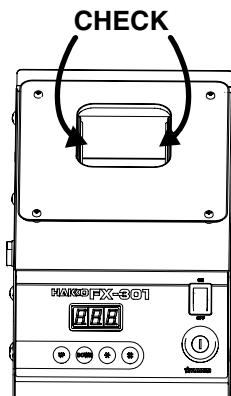

Fig.3
- Around the heater of the unit, insides of the heat insulator (Fig.3 and Fig.4)